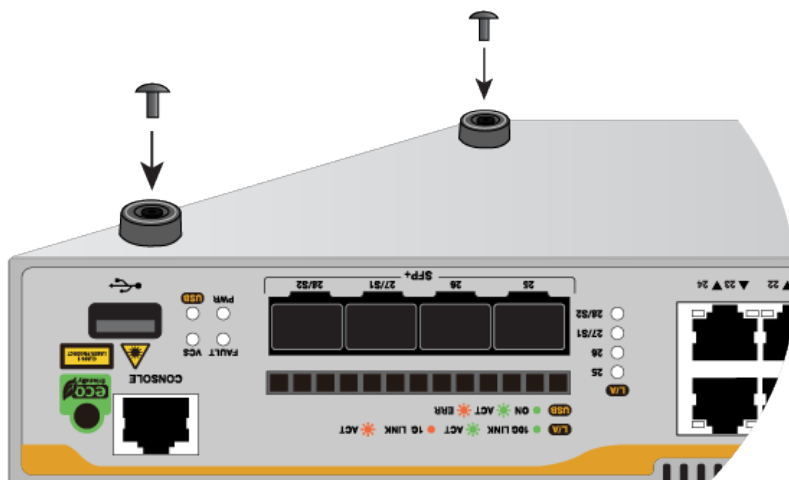

Figure 21. Inserting the Rivet into the Bumper Foot
5. Insert the rivet to secure the bumper foot to the base. See Figure 21 on page 54.